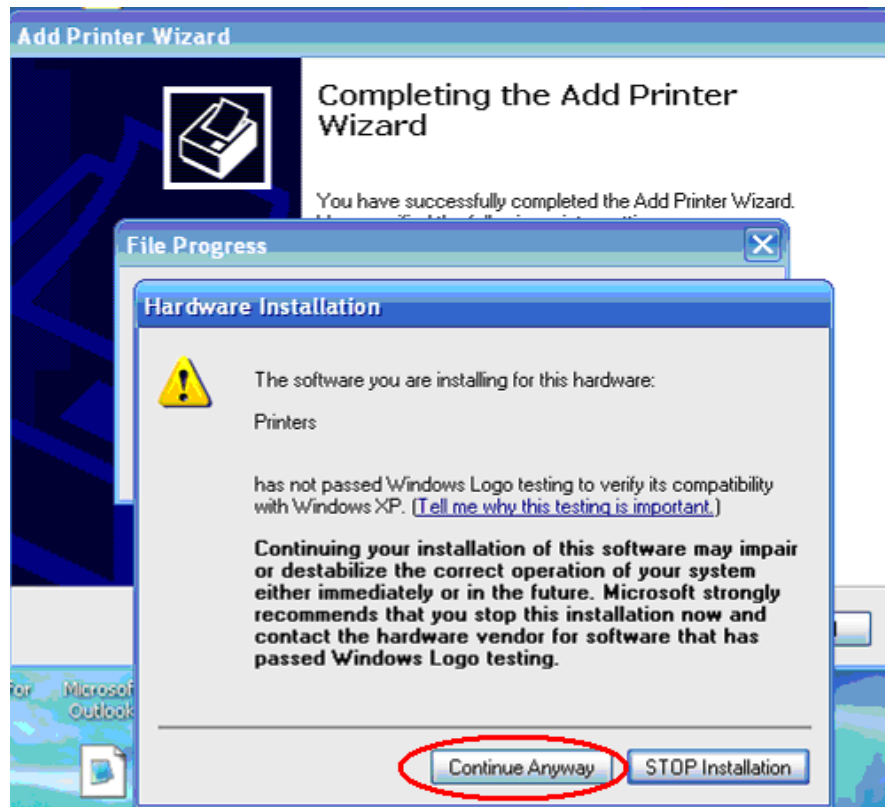

Figure 42 - Continue Window
*Note that **Figure 42** shows two screens that may not appear during the driver installation in **Win 7**.*